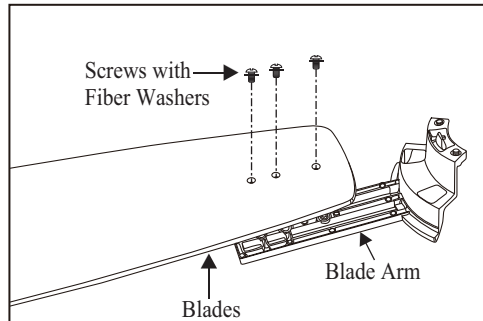

Figure 14
1. Attach blades to blade arms using three screws with fiber washers. (Fig. 14) Start a screw into the blade arm, do not tighten. Repeat for the 2 remaining screws and washers.